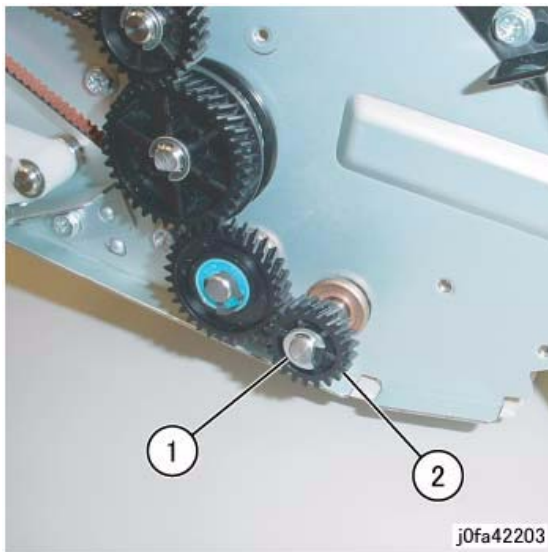

Figure 3 Removing the Gear
6. Remove the Rear Gear (Figure 3)